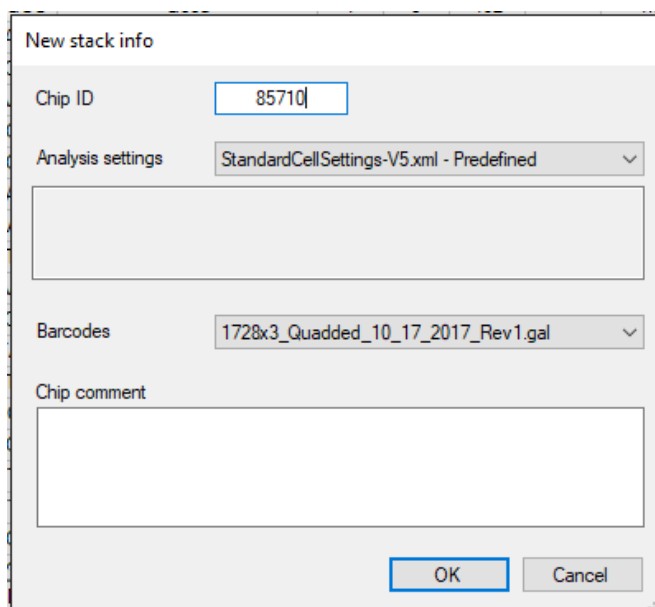

Figure 24. Loading the settings file.
3. Confirm the Chip ID, load the settings file `StandardCellSettings-V5.1.xml`, select the preloaded GenePix Array List (.gal) file `1728x3_Quadded_10_17_2017_Rev1.gal`, and enter a chip comment, if helpful, as shown in Figure 24 below. This file contains nanowells barcode sequence for each preprinted nanowell location.